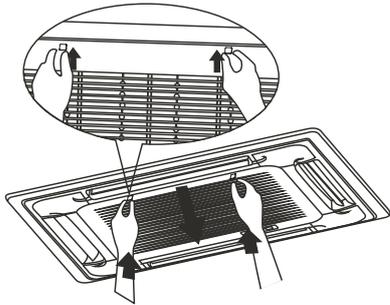
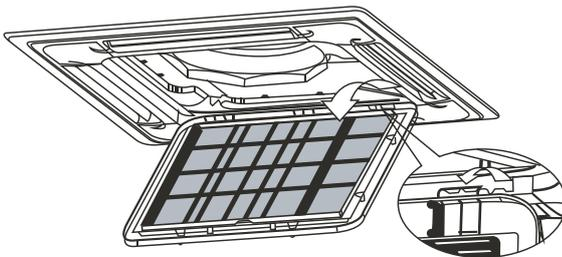

Figure 15.1
Figure 15.2
- Push the grille switches simultaneously, as indicated in Figure 15.1. Then pull down the air intake grille (together with the air filter, as shown in Figure 15.2). Pull the air intake grille down to 45°, and lift it up to remove the grille.